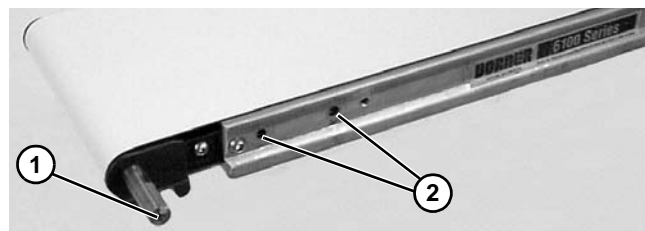

Figure 15
- Locate drive output shaft (**Figure 15, item 1**) and remove two (2) screws (**Figure 15, item 2**).